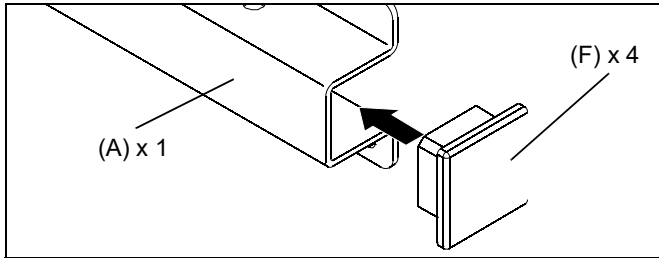

Figure 1
1. Slide one end cap (F) into each end of upper and lower wall plates ON MOUNT (A). (See Figure 1)